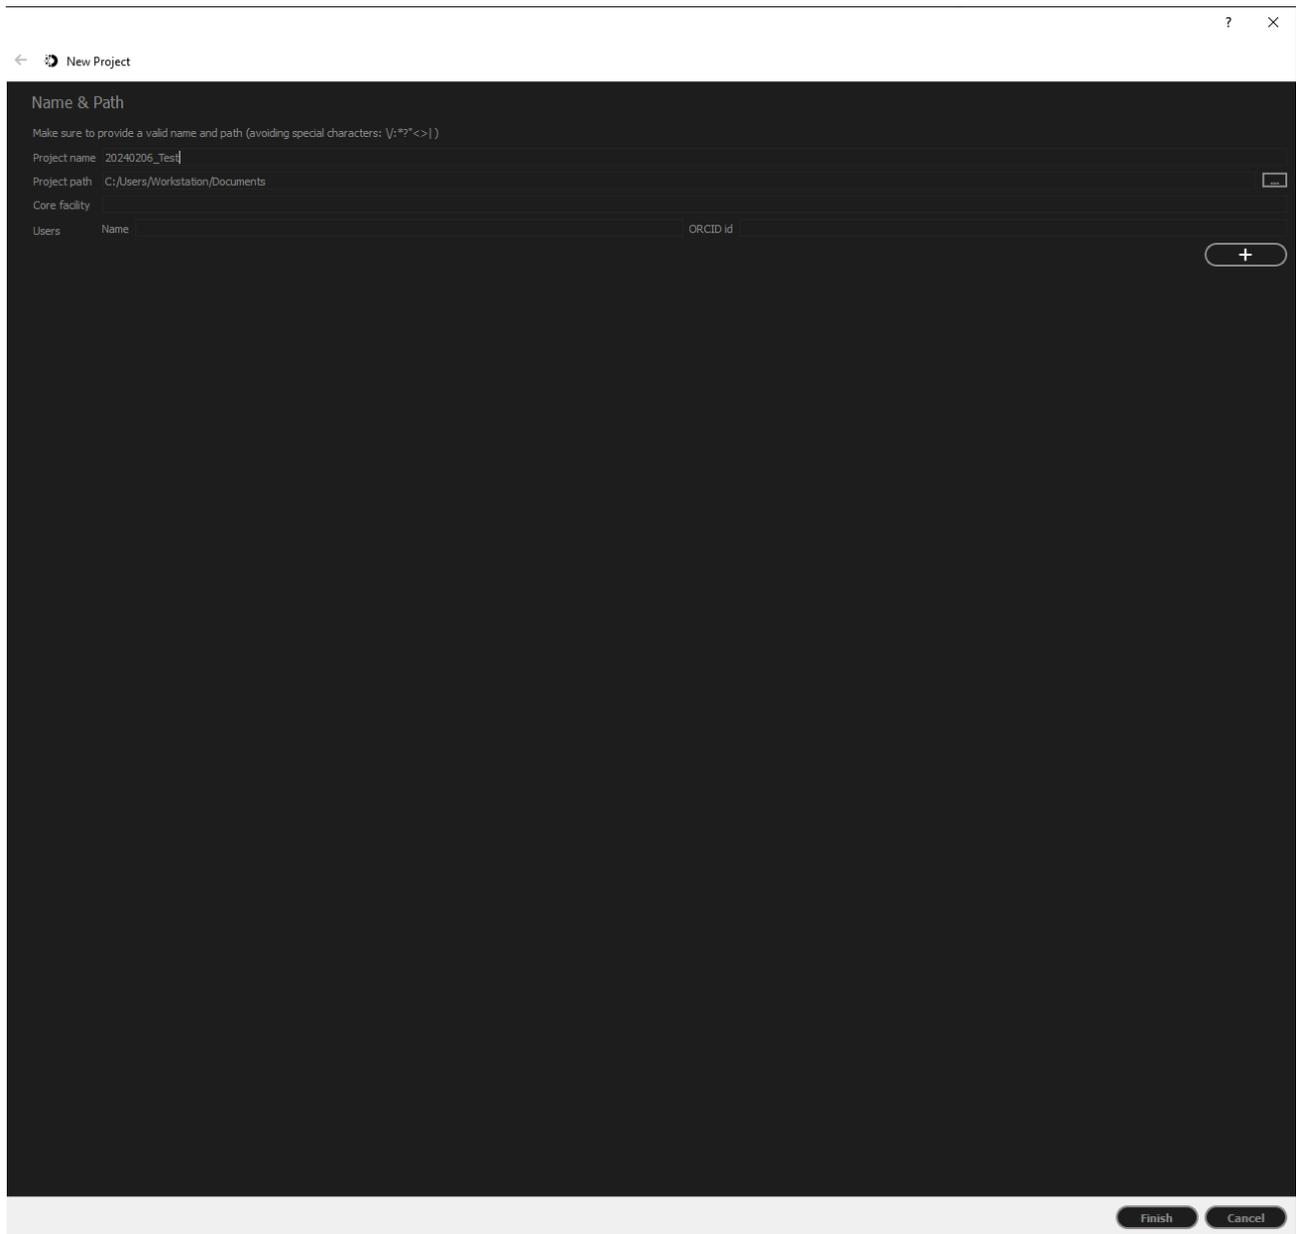

Figure 10: Project directory.
6. Create a new project directory in C:/Users/Workstation/Documents (Fig. 10) as the C: drive is the fast drive. Click “Finish.” Click on “Project” again so it’s not highlighted and the project tab is hidden.